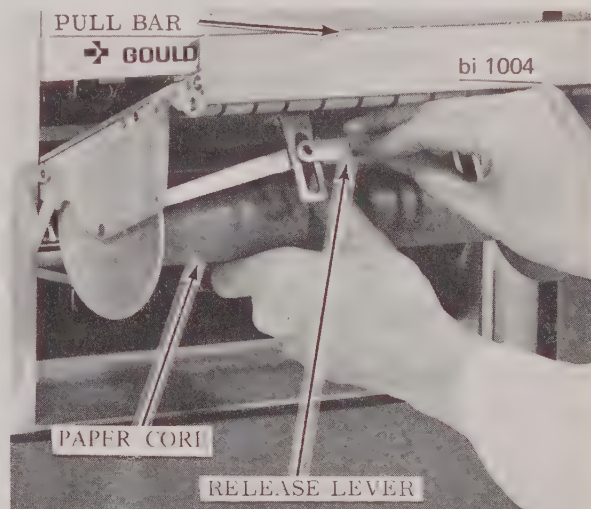

FIGURE 6-1. PAPER ROLL REMOVAL
2. Grasp pull bar (Figure 6-1) and open writing table.